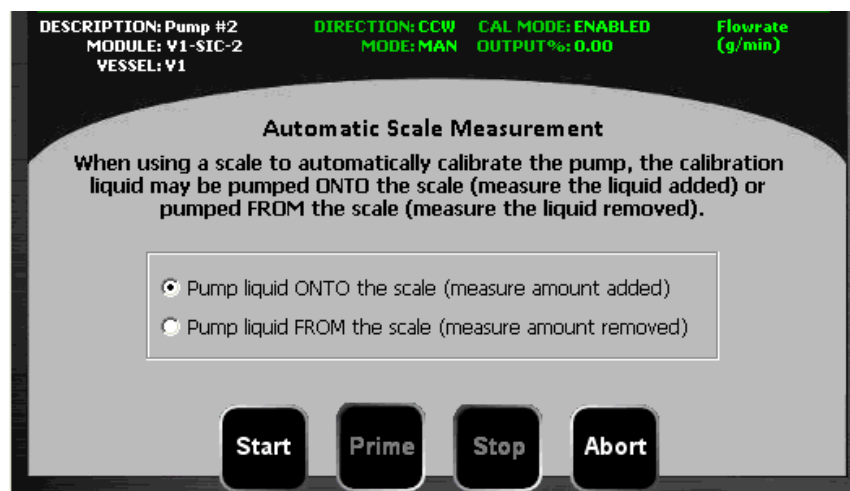

Figure 3.38. Pump Automatic Scale Measurement window.
5. Choose either **Pump liquid ONTO the scale** or **Pump liquid FROM the scale** (Figure 3.38).
6. Select **Start** (Figure 3.38).